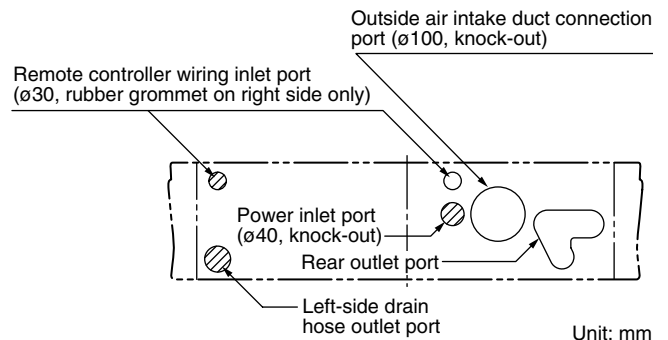
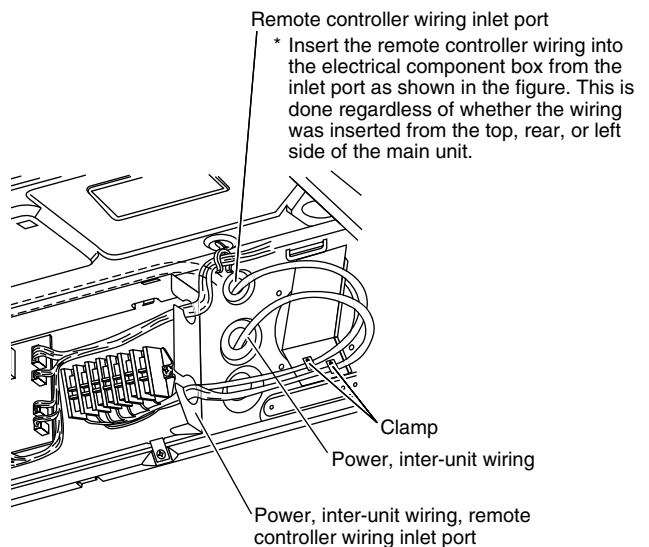

Fig. 3-50
Fig. 3-55
There is a duct connection port (knock-out hole) at the right-rear of the top panel of the indoor unit for drawing in fresh air. If it is necessary to draw in fresh air, remove the cover by opening the hole and connecting the duct to the indoor unit through the connection port. (Fig. 3-50)
- * When routing the tubing out through the top or right sides, knock out the appropriate parts in the top panel and cut notches in the side panel (Fig. 3-50).
The remote controller wiring inlet ports are located at the rear and top (for use with the wired remote controller). For details, refer to Fig. 3-50. For the method used to insert the wiring, refer to Fig. 3-55.